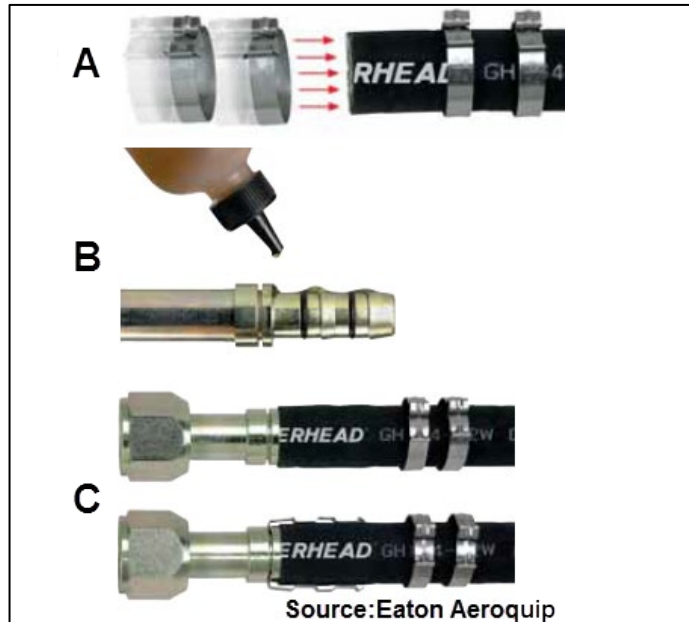

Figure 12 : Eaton E-Z Clip System™
- (Fig. 12, **A**) Slip the two clamp rings #504761 on the hose.
- (Fig. 12, **B**) Oil the nipple on fitting #5011319 with oil compatible with A/C systems. This must be done to ease the insertion of the nipple in the hose.
- (Fig. 12, **C**) Snap cage # 504765 in fitting groove over hose. The cage must be able to rotate in the groove.